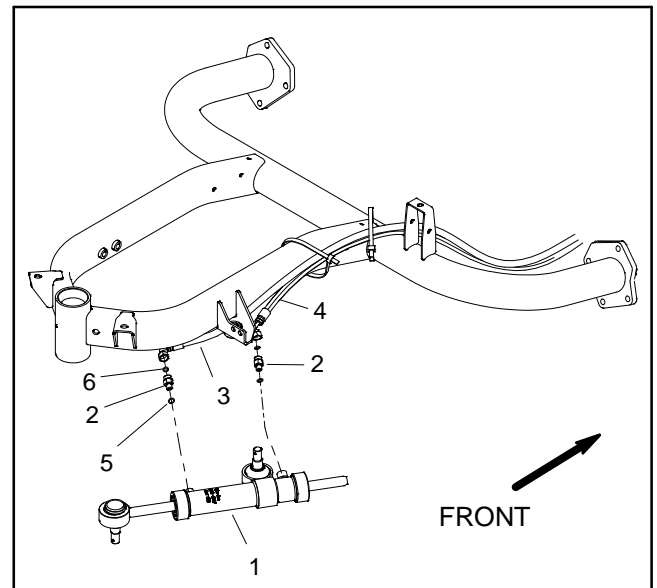

Figure 57
4. Place cylinder spacer (item 10) onto cylinder barrel ball joint.
6. Secure both steering cylinder ball joints to machine with two (2) jam nuts (item 4). Install first jam nut and torque from **60 to 80 ft-lb (82 to 108 N-m)**. Then, while holding first jam nut with wrench, tighten second jam nut and torque from **60 to 80 ft-lb (82 to 108 N-m)**.
8. Lubricate new O-rings and connect hydraulic hoses to steering cylinder (Fig. 57). Tighten hose connections (see Hydraulic Hose and Tube Installation in the General Information section of this chapter).